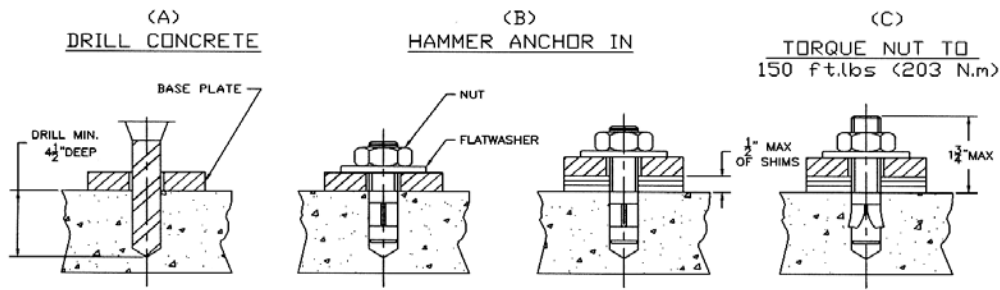

Figure 15 – Anchor Bolts
3. Refer to Bay Layout (**Figure 3**) to ensure that the column is still in the proper position. Using a rotary hammer drill with a 3/4” masonry drill bit, drill holes in the floor on the high side column using the tower baseplate as a template. Make sure that the 3/4” masonry drill is in good condition (**Figure 15**).
4. Carefully clean out drilling dust from the anchor holes. Hammer in the anchor bolts (**Figure 15**). Hand tighten all anchor bolts.
6. Torque all anchor bolts to 150 ft-lbs. (203 Nm), continually checking that the column is level as you proceed. If anchor bolts do not tighten to 150 ft-lbs. OR project more than 1 3/4” above the concrete surface (**Figure 15**), the concrete MUST be replaced by an appropriate concrete pad. (*Consult Product Manufacturer / Supplier for further details*).
2. Refer to Bay Layout (**Figure 3**) to ensure that the column is still in the proper position. Using a rotary hammer drill with a 3/4” masonry drill bit, drill holes in the floor on the low side column using the tower baseplate as a template. Make sure that the 3/4” masonry drill is in good condition (**Figure 15**).
3. Carefully clean out drilling dust from the anchor holes. Hammer in the anchor bolts (**Figure 15**). Hand tighten all anchor bolts.
5. Torque all anchor bolts to 150 ft-lbs. (203 Nm), continually checking that the crossmember and column are level as you proceed. If anchor bolts do not tighten to 150 ft-lbs. OR project more than 1 ¾" above the concrete surface (**Figure 15**), the concrete MUST be replaced by an appropriate concrete pad. (*Consult Product Manufacturer / Supplier for further details*).